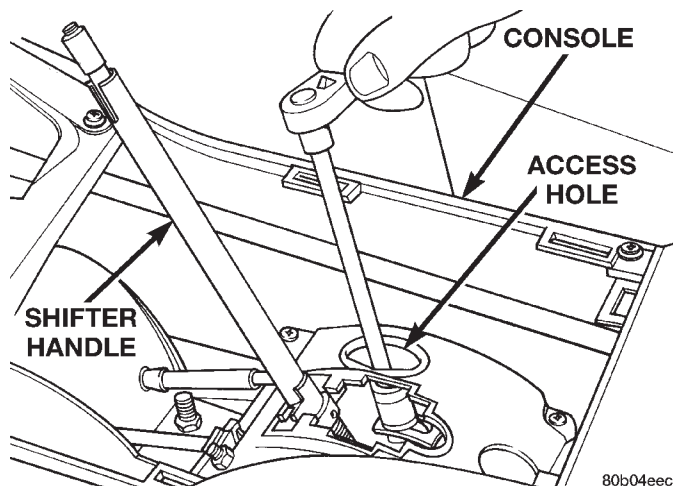

Fig. 358 Shift Cable Adjust Lever Nut
- (1) Remove shifter handle and console bezel.
- (2) Loosen nut on shifter cable adjuster (Fig. 358).
- (3) Make sure that the transaxle shift lever (at transaxle) is in the Park position. This is the most rearward position. Verify park sprag is fully engaged.